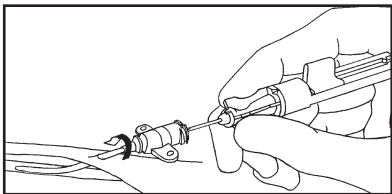

Figure 4
9. Firmly hold introducer needle hub in position and advance catheter forward, over guidewire into vessel (refer to Figure 4).